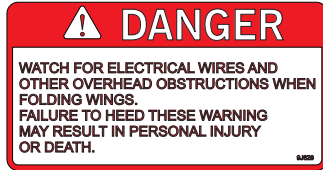

**Figure 1-2: Safety Chain**
- Attach the chain to the tractor drawbar support or specified anchor location. Never attach the chain to an intermediate support. Allow only enough slack in the chain to permit turning. The distance from hitch pin to attachment point or intermediate support point should not exceed 9 inches. **See Figure 1-2.** If the distance from the drawbar pin to either the front or rear chain attachment point exceeds 9 inches, Intermediate Chain Support is required. **See Tractor Operator's Manual.**